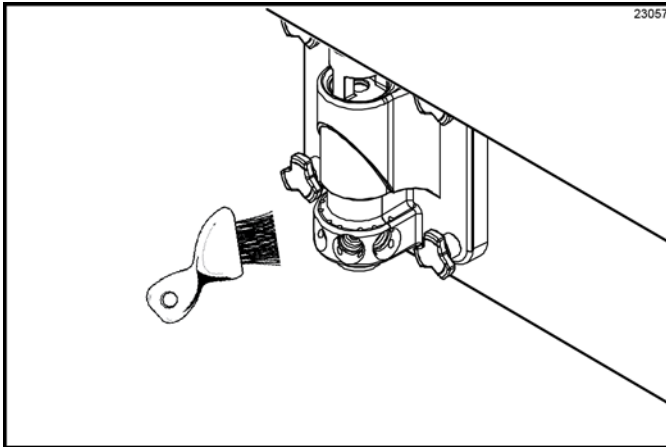

Figure 6-75
4. With the syrup port brush, brush each syrup port hole 10 to 15 times. Dip the brush in sanitizing solution before brushing each port. (See Figure 6-75.)